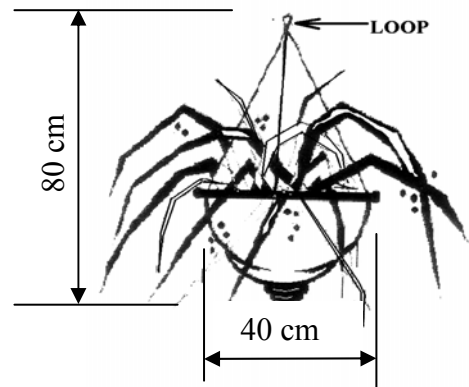

Figure 1
EVERY lamp post would have **TWO** hanging pots of size and shape shown in figure 1.
4. Use notes and sketches to show how you intend to secure the pot's hanging loop (see fig. 1) to the brackets to assure safety on windy days.